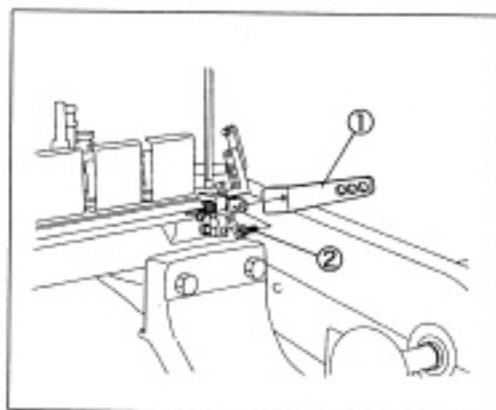

Fig. 10 图10
Set the presser foot connecting lever ① with the screw ②. (Fig. 10)
用螺钉②安装压脚连杆①。(图10)